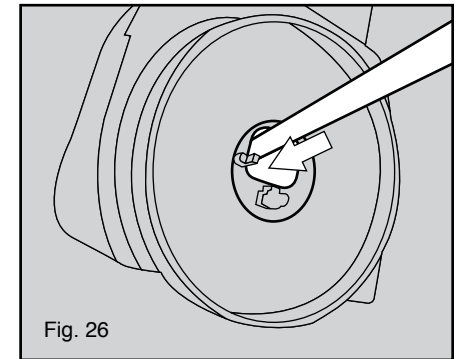

Fig. 26
1. Slip the straw into the underside of the motor module (see figure 26).